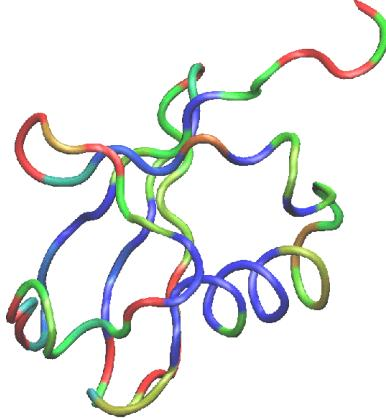

Figure 9: Ubiquitin colored by the average RMSD per residue. Red denotes more mobile residues, and blue denotes residues which moved less during equilibration.
- \* **10** Choose the **Graphics → Colors...** menu item. Choose the **Color Scale** tab. In the **Method** pull-down menu, choose **BGR**. Your figure should now look similar to Fig. 9.